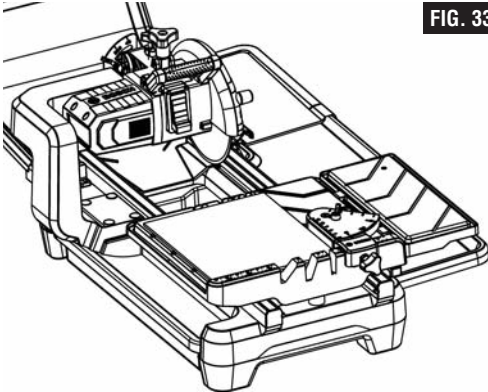

FIG. 33
6. With hands firmly placed on fence and tile at the same time, ease the sliding work table towards the blade to slowly feed the tile into the blade. Continue pushing until the blade cuts completely through the tile (Fig. 33).